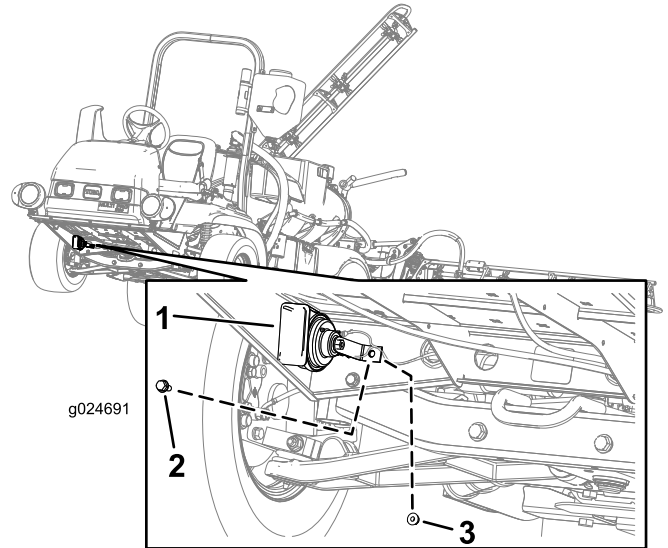

Figure 21
3. Align the hole in the short leg of the 90° bracket with the hole in the rear-platform channel (Figure 21).
4. Assemble the 90° bracket to the platform channel with the flange-head screw (5/16 x 3/4 inch) and the flange locknut (5/16) as shown in Figure 21.